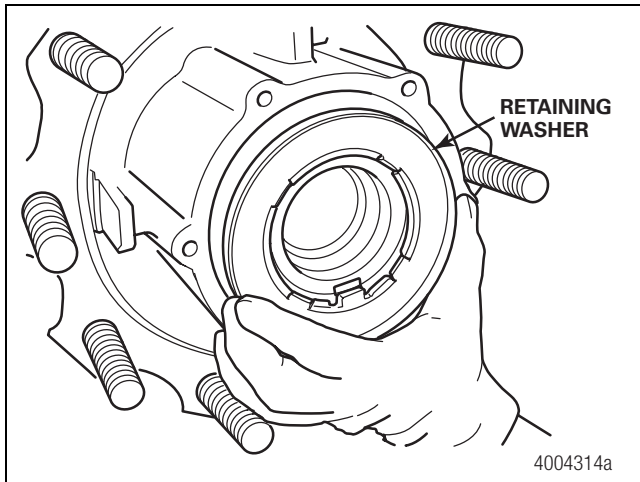

Figure 4.27
7. Use bearing grease to lightly lubricate the face of the retaining washer that contacts the spindle nut. Install the washer onto the spindle so that the washer tab is inserted into the keyway and the washer dish is facing OUTWARD. Figure 4.27.